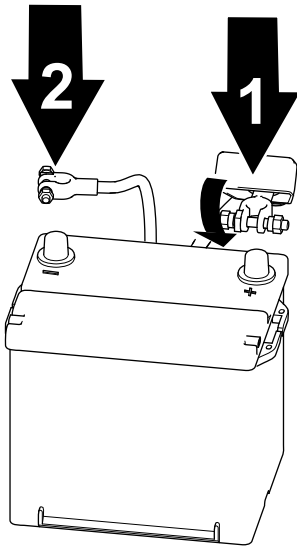

Figure 58
1. Connect the positive cable to the battery and tighten the battery-clamp nut (Figure 58).
2. Connect the negative cable to the battery and tighten the battery-clamp nut (Figure 58).